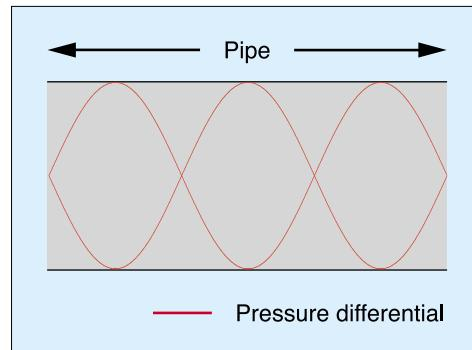

Figure 3(c): The second and third harmonics of a closed pipe.
► You might ask whether there are any other changes caused by closing one end of the pipe, and you would be wise to do so. Let's look at the second and third modes of vibration, just as we did for the open pipe in figures 3(b) and 3(c).